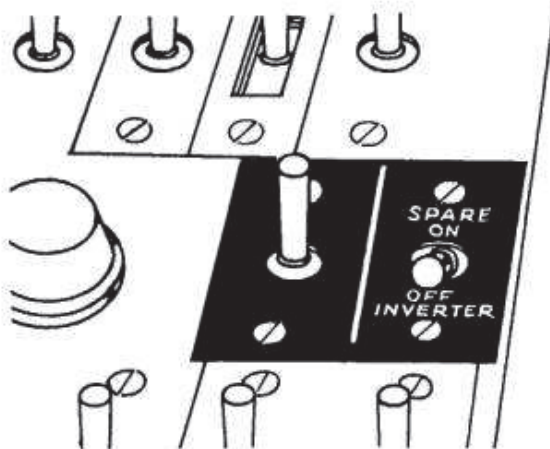

Figure 50 — Inverter Selector Switch
(28) Pull inverter selector switch aft to "SPARE-OFF" to start main inverter. (See figure 50.)